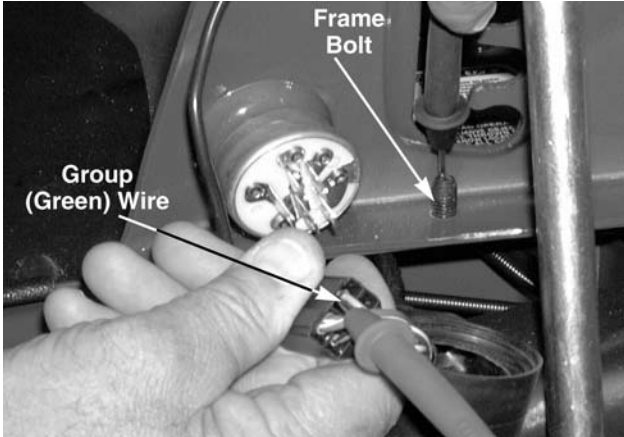

**Figure 8-75.**
8. Locate the ignition switch and remove the wiring harness connector. See Figure 8-75.